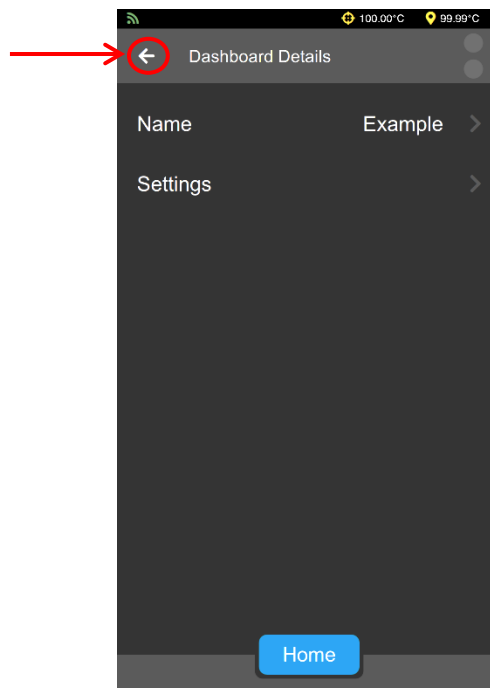

Figure 58: Return to Dashboard Files
6. Last, tap the back arrow, in the top left of the screen, to return to the **Dashboard Files** screen. See Figure 58.